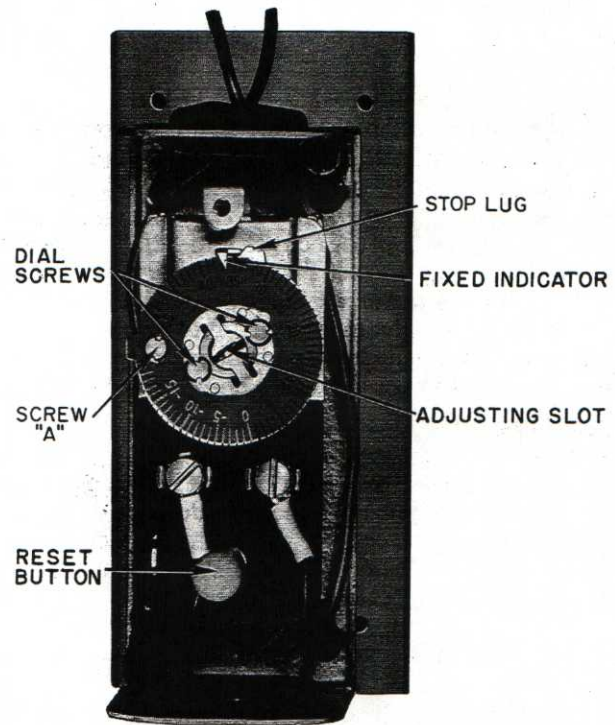

Fig. 6 — Safety Thermostat
The low water temperature cutout (Safety Thermostat, Fig. 6) is a noncycling, manual-reset type, to protect against freeze-up due to operating malfunction. On all units, bulb is installed in leaving chilled water connection (item 8, Fig. 1). Freezestat is set to break control circuit at 36 ± 2 F, locking out unit. The thermostat must be reset before unit can restart. The chilled water circulating pump continues to operate during lockout period.
For glycols, or brines, loosen screw "A" (Fig. 6), hold stop lug against fixed indicator and turn dial to lower setting. Tighten screw "A." *Do not disturb this screw for any other adjustment.*